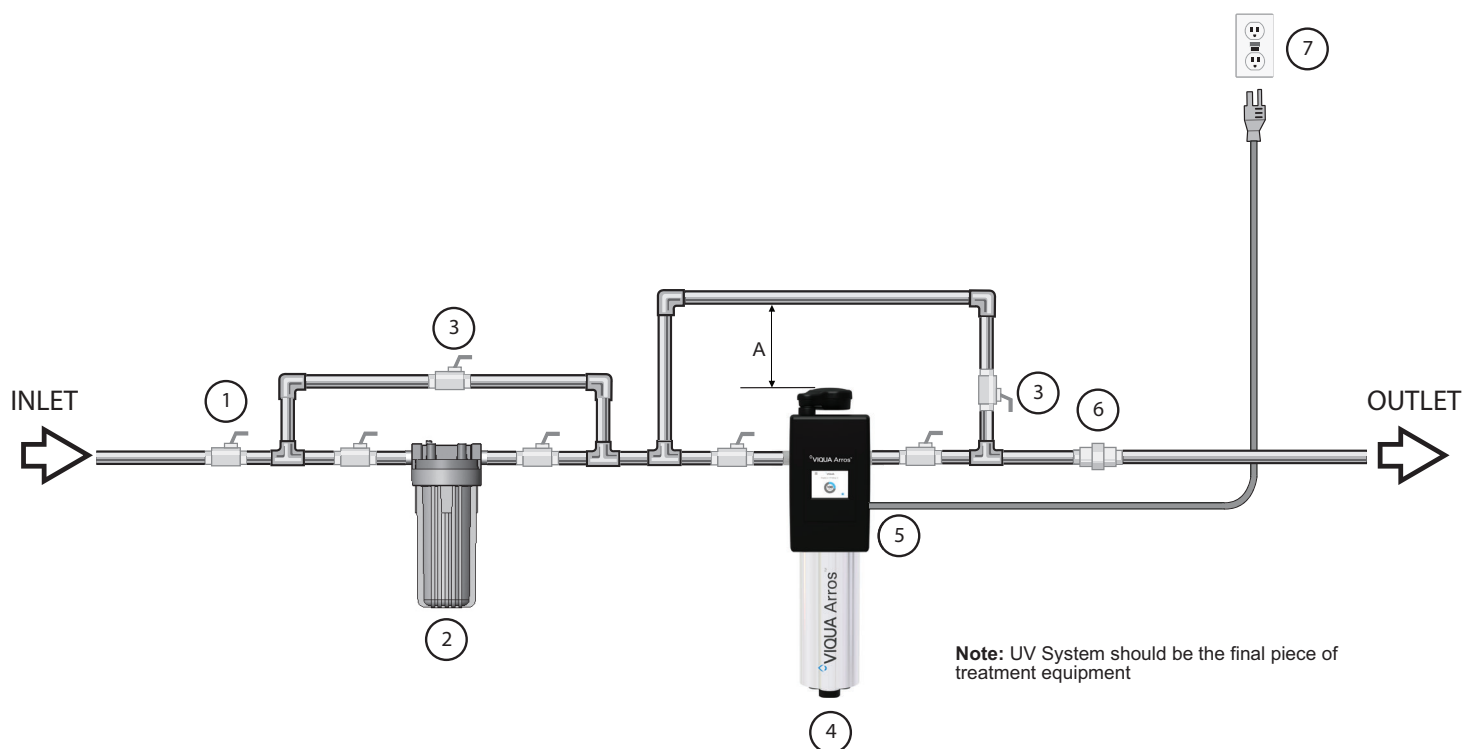

Figure 3 UV System
- Determine appropriate indoor location for the UV System. Refer to Figure 3.
- Make all necessary plumbing connections. Refer to Figure 3.
- Figure 3 shows the installation of a typical UV System and the related components that may be used for the installation. The use of a by-pass assembly is recommended in case the system requires “off-line” maintenance. In this case, note the system requires a supplementary disinfectant for the distribution system if any water is used during by-pass condition. In addition, during by-pass, the water will NOT be treated and a “DO NOT CONSUME THE WATER” tag should be physically installed on the by-pass assembly until such time as the system is sanitized and returned to service. For more information, refer to Section 3.2. If the water is to be consumed while the system is off-line, the water must be boiled for twenty minutes prior to consumption.